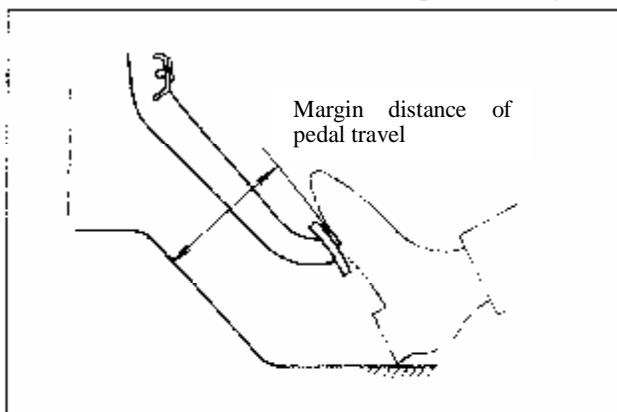

Figure 10-8-7 Check Brake Pedal Margin Travel
③ Check the margin distance of pedal travel. Release parking brake manual handle while engine is running, step down the brake pedal. The margin distance of pedal travel is as shown in figure 10-8-7. Under 490N stepping force, the distance is more than 58mm. If the distance is incorrect, perform diagnosis for the brake system.